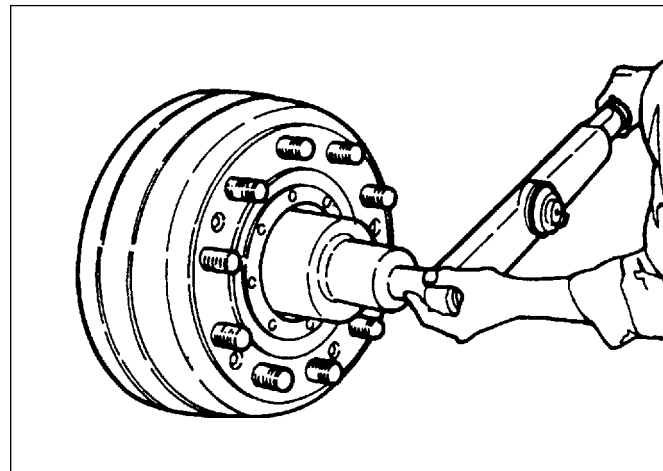

Figure 20. Torque the inner adjusting nut
2. After mounting the hub assembly, torque the inner adjusting nut to 200 ft-lbs (271 N•m) while rotating the hub assembly (Figure 20).